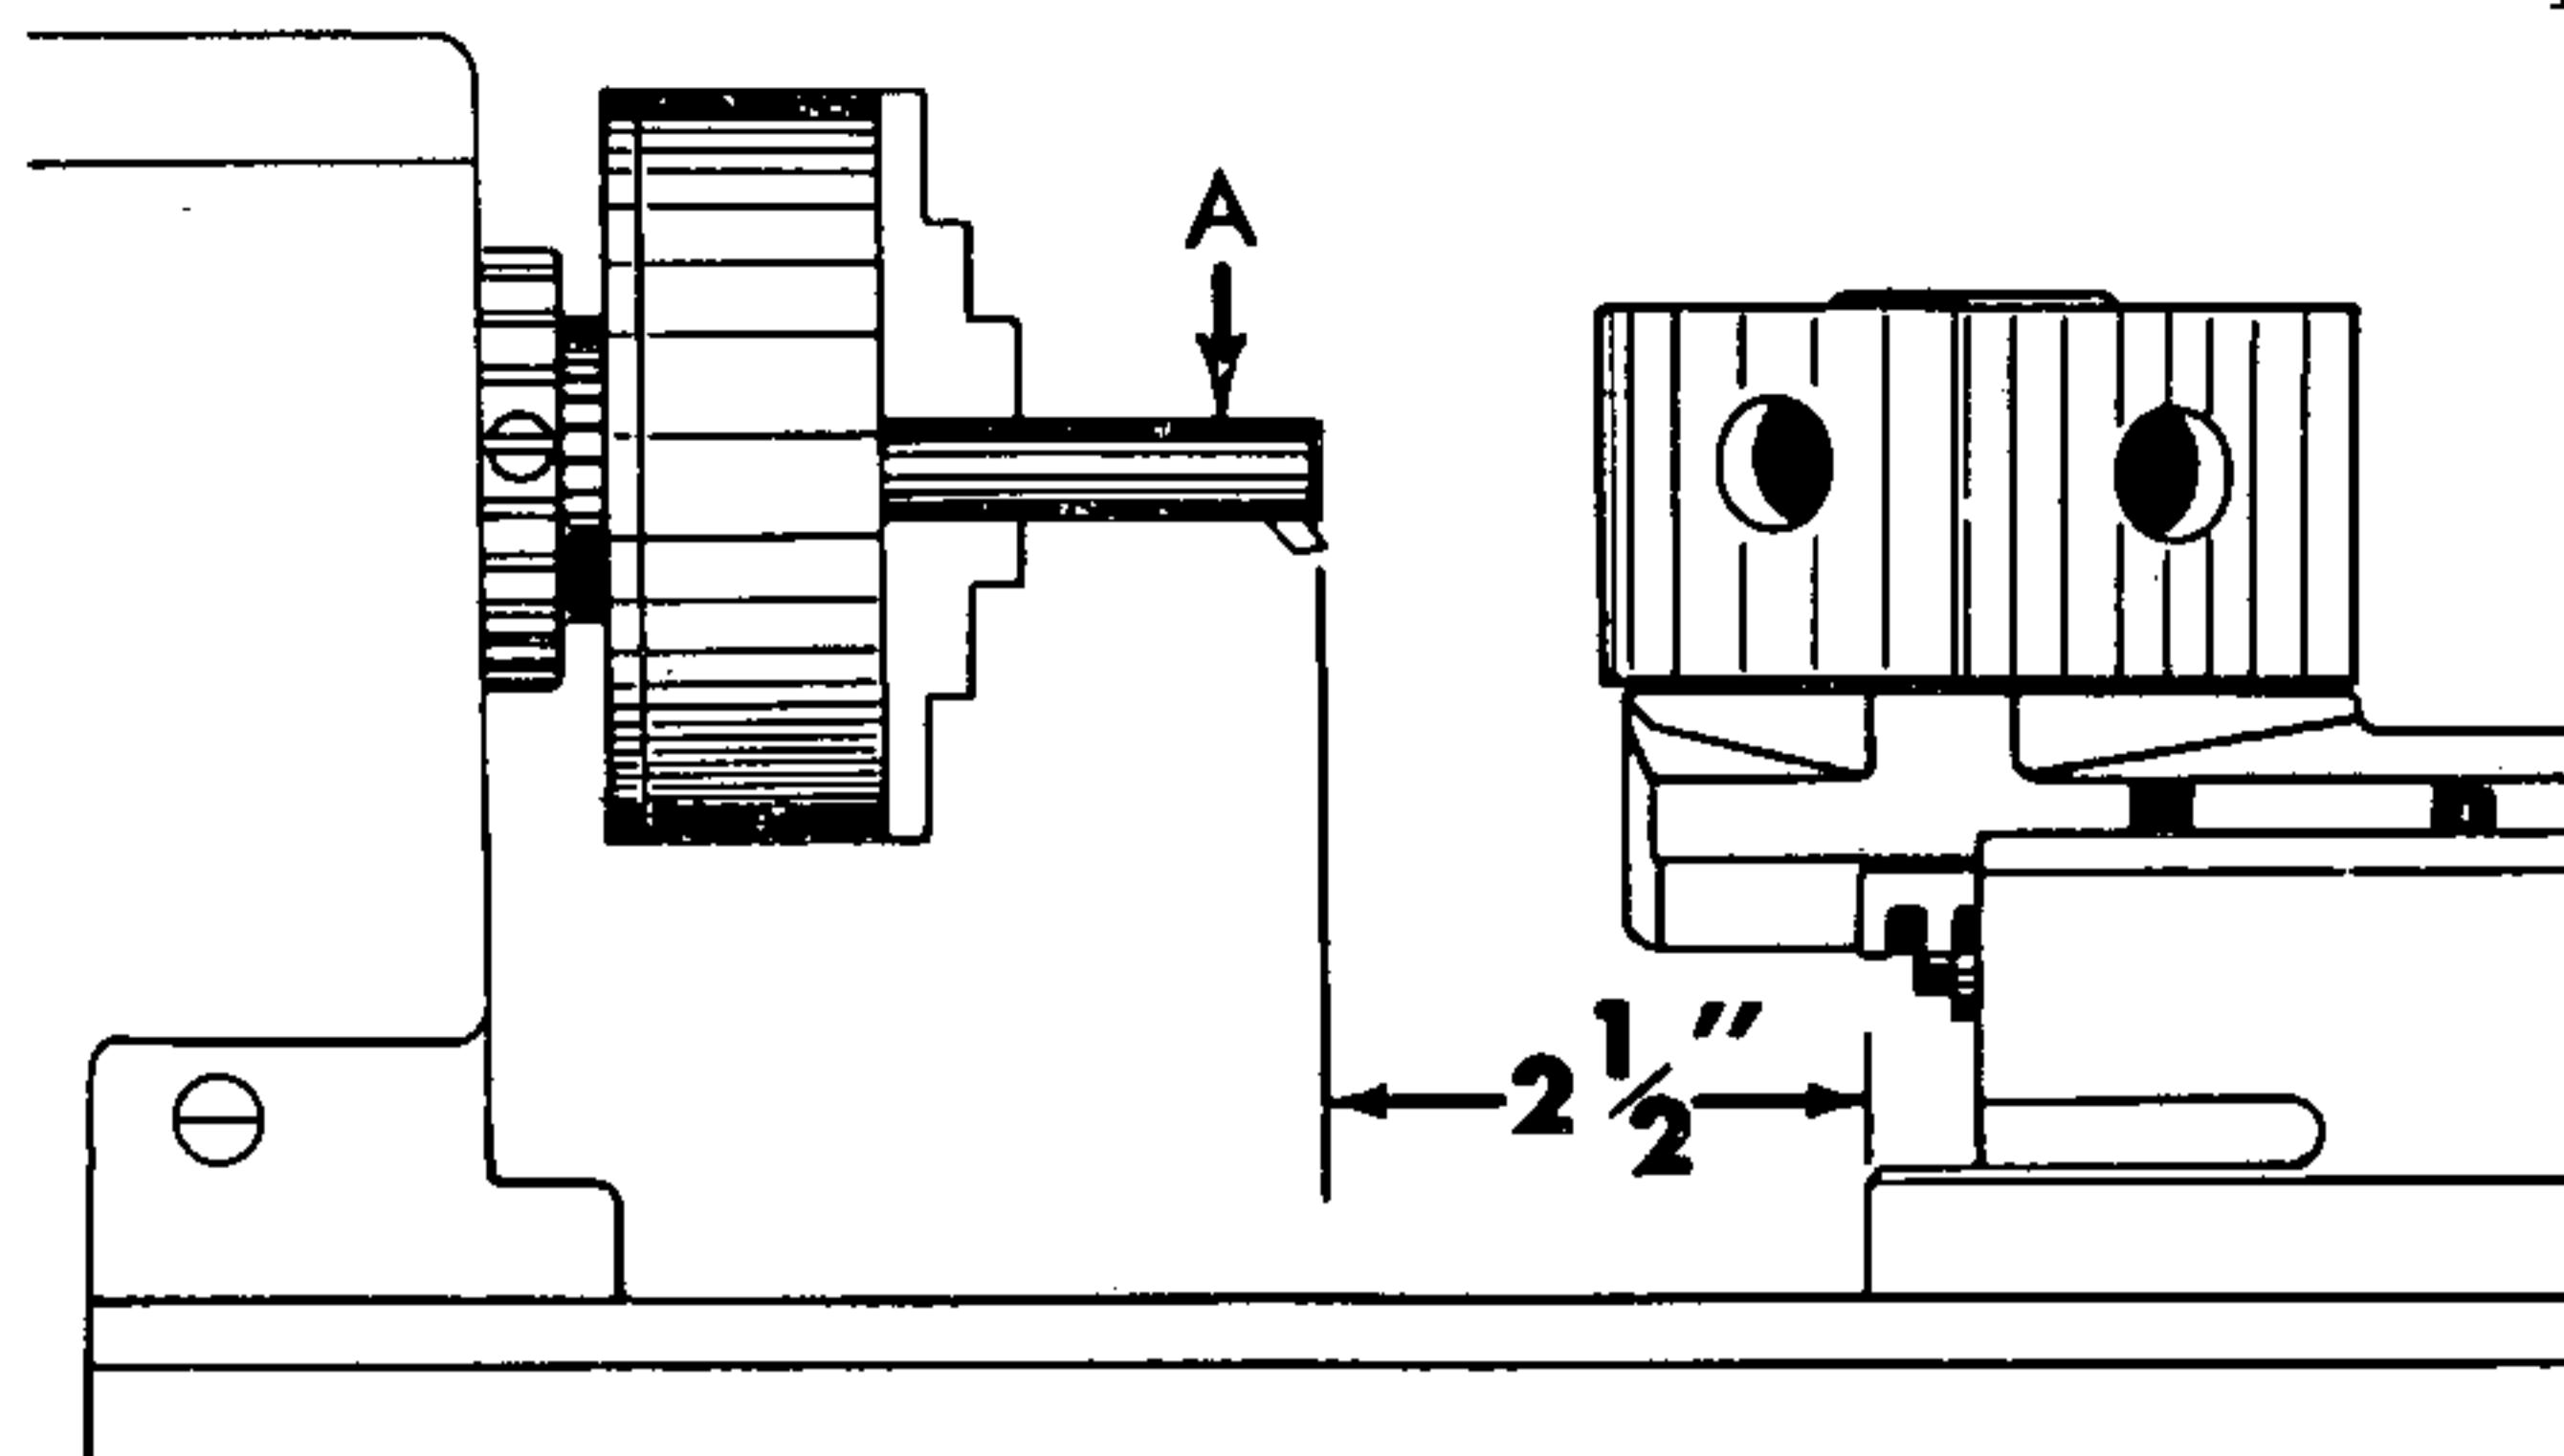

Figure 3
5. Move the turret forward on the lathe bed until the distance between the boring bar cutter (A fig. 3) and the front of the turret base is about  $2\frac{1}{2}$ ". In this location, overhang is at a minimum, and turret can be indexed. Lock turret to lathe bed by tightening clamp plates. (See 8, page 1).